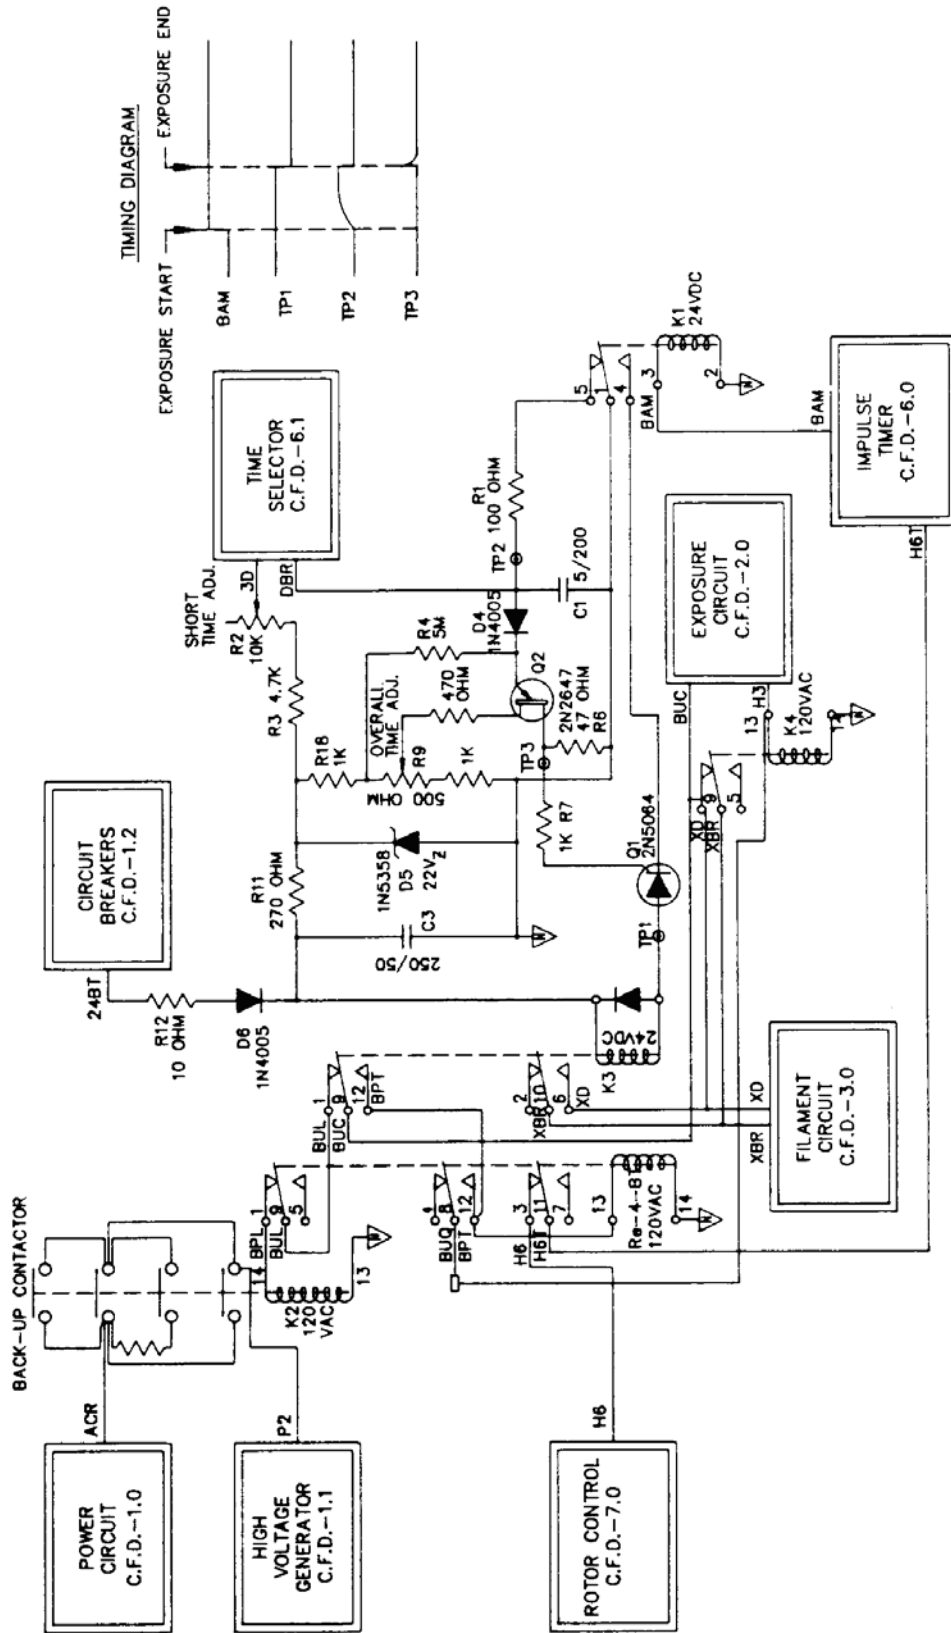

Figure 2-9. Circuit function description 6.2.
b. The back-up timer allows an approximately 10-percent increase in exposure time 1 at 50Hz, in the event of failure of the impulse timer. The time increase will be greater at 60Hz. The appropriate back-up time is automatically selected as the regular exposure time is selected. These resistors are inserted into the charging path of C1 capacitor in the timer back-up circuit in lead DBR (figure 2-9). The voltage across the back-up timer deck is some portion of positive (+) 24vdc as adjusted by pot R2 in the back-up-timer circuit. This positive voltage is on leads DBR and 3D.
Refer to figure 2-9. The back-up timer operates in two modes. The first is normal exposure, when the back-up timer causes the back-up contactor to pull in prior to the beginning of an exposure, and releases the back-up contactor after the SCR contactor turns off. During phototiming, if the phototimer terminates the exposure prior to time out, the back-up contactor does not release. The second mode provides for exposure interruption by releasing the back-up contactor immediately when the overload condition is detected.